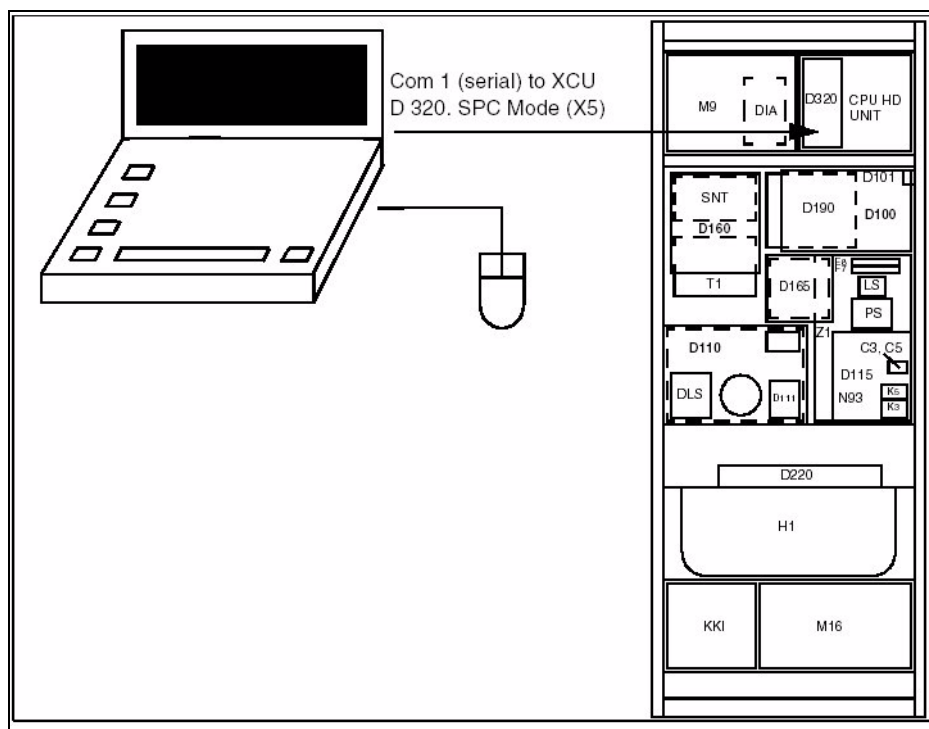

Fig. 2 Connection of Service PC
- Connect the service PC to the POLYDOROS SX65/80 generator as shown in (Fig. 2)